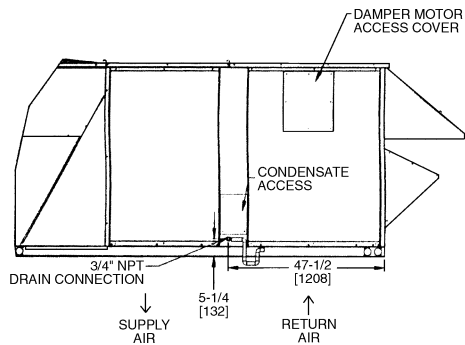
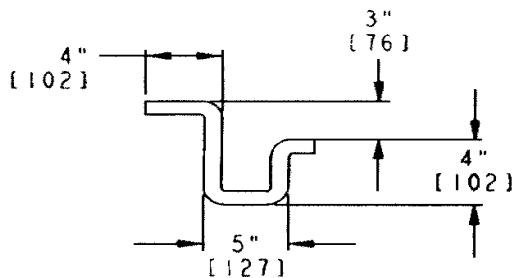

Fig. 12 — Condensate Drain Details
Fig. 13 — Condensate Drain Piping Details
Step 7 — Trap Condensate Drain — See Fig. 12 for drain location. One 3/4-in. half coupling is provided outside unit evaporator section for condensate drain connection. A trap at least 4-in. deep must be used. See Fig. 13.